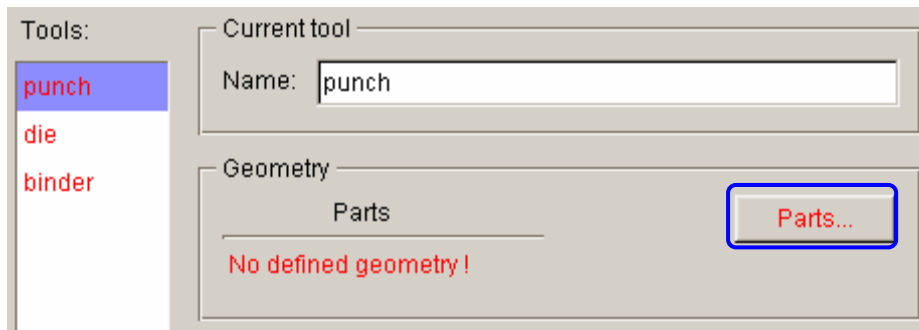

Figure 2.21 Punch definition
4. In **punch** interface, press **Parts...** button to assign a part as punch. See Figure 2.21.